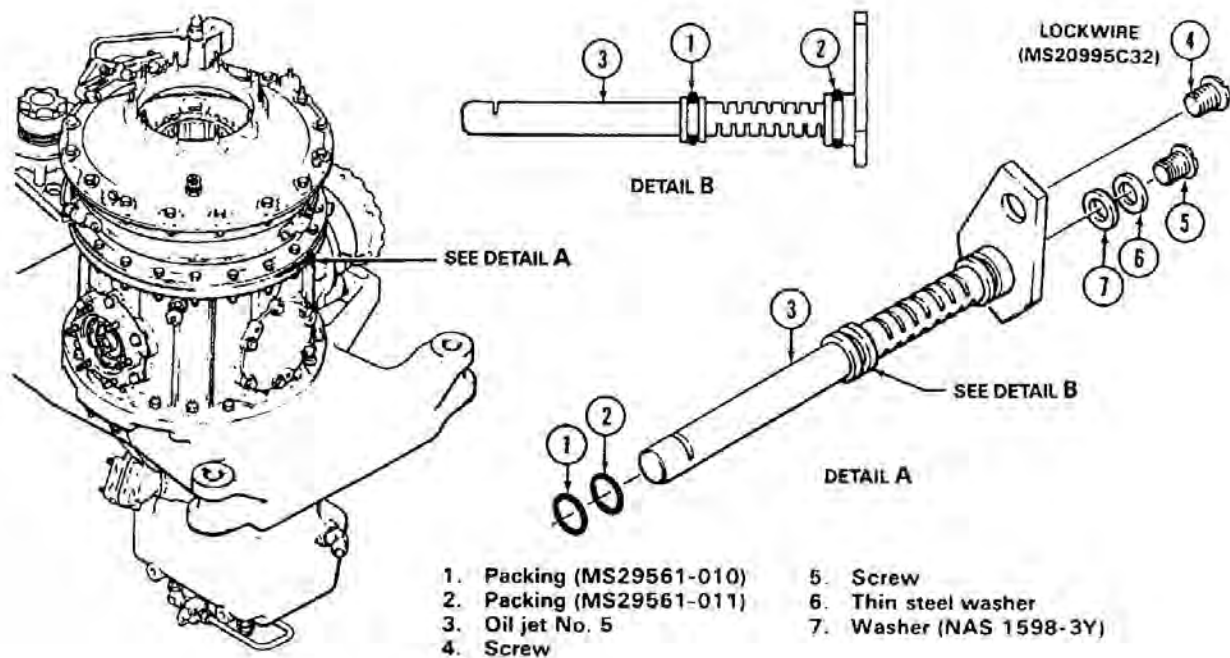

Figure 63-31. Transmission Oil Jet No. 5
- 63.5.15.1.1 Remove screw (4, Figure 63-31).
63.5.15.5.1 Install screw (5, Figure 63-31) with washers (6 and 7) on jet (3).